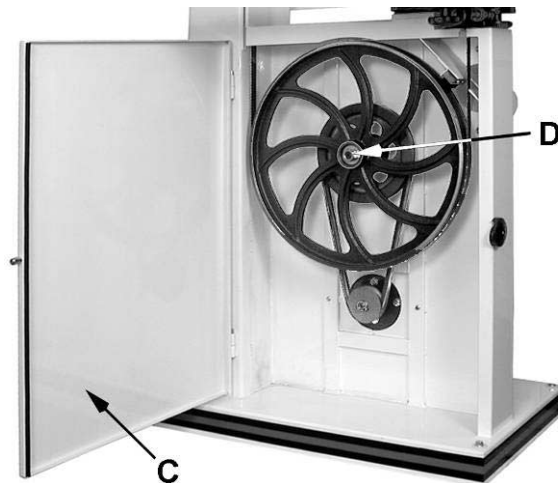

Figure 27
1. Loosen the *lock handle* (A) that secures the *motor* (C).
2. Release belt tension by pulling *handle* (B) up which raises the motor, then tighten *lock handle* (A).
3. Open the lower wheel door (C, Fig. 27).
2. Loosen the *lock handle* (A) that secures the *motor* (C).
3. Release belt tension by pulling *handle* (B) up which raises the motor, then tighten *lock handle* (A).
4. Open the lower wheel *door* (C, Fig. 27) and remove the *hex nut* and *washer* (D, Fig. 27).